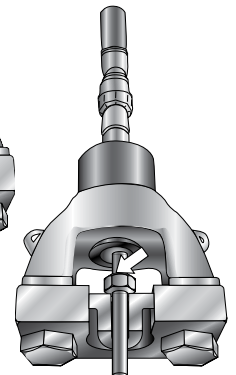

Figure 4
- Close the pressure relief valve on the side of the hand pump. Pump the hand pump until the ram reaches a positive stop. At this point an increase in resistance of the handle will be felt and the nut will bottom against the shoulder of the body die (Figure 4).